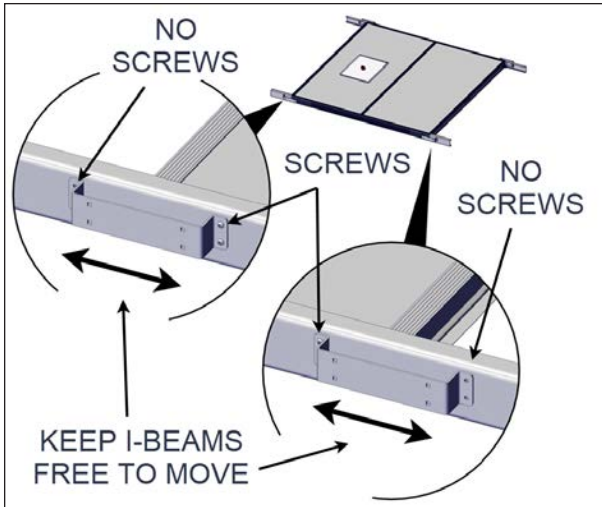

FIGURE 35: OTHER POST BRACKET INSTALLATION
12. Repeat the previous step for the remaining brackets, see Figure 35.